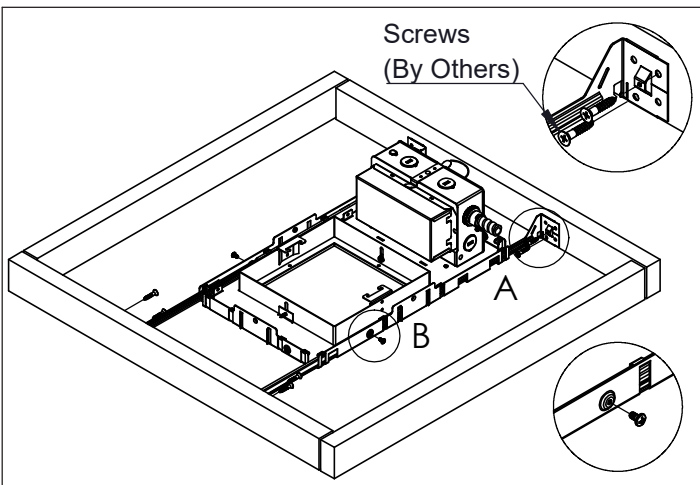

Figure 3
3. Extend Bar Hangers and secure them to wood blocking with screws provided by others. Then secure Bar Hangers to Housing by tightening screws. (Fig. 3)